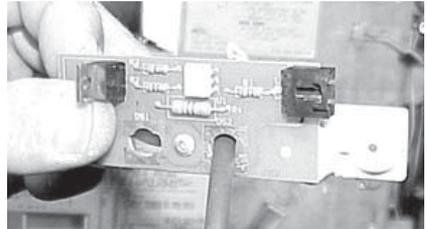

Figure 2
6. If the lamp circuit board can be removed, remove it. Otherwise, thread the new harness through the lamp circuit board (see Figure 2).